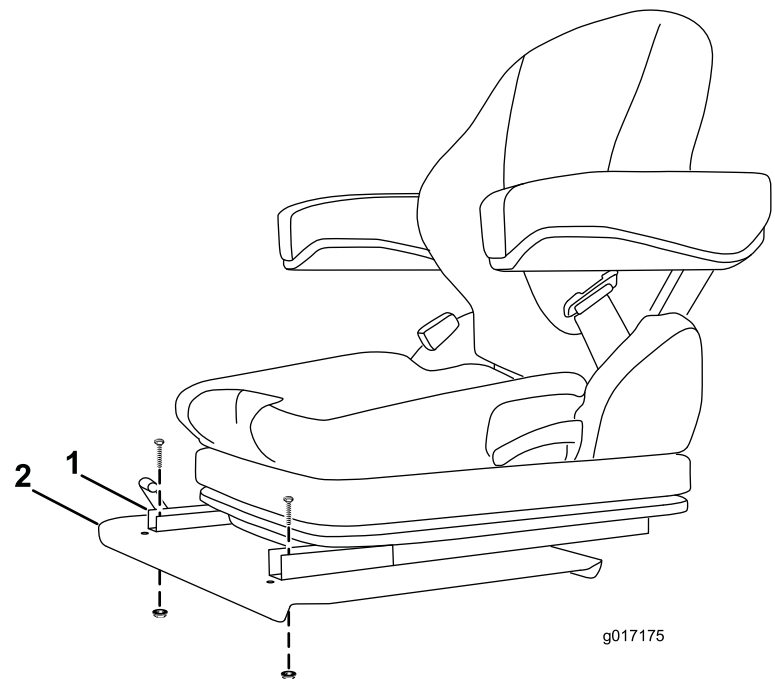

Figure 5
2. Mount the front of each seat slide to the seat base with a bolt and flange nut (Figure 5).